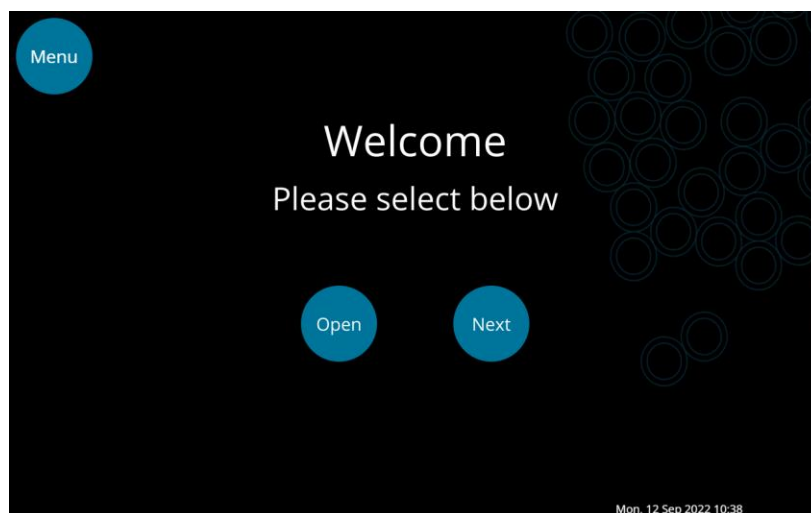

Fig. 5.5. The **Welcome** screen. Press **Open** to open the drawer.
1. Press **Open** on the Xdrop Sort instrument touchscreen to open the drawer (Fig. 5.5).